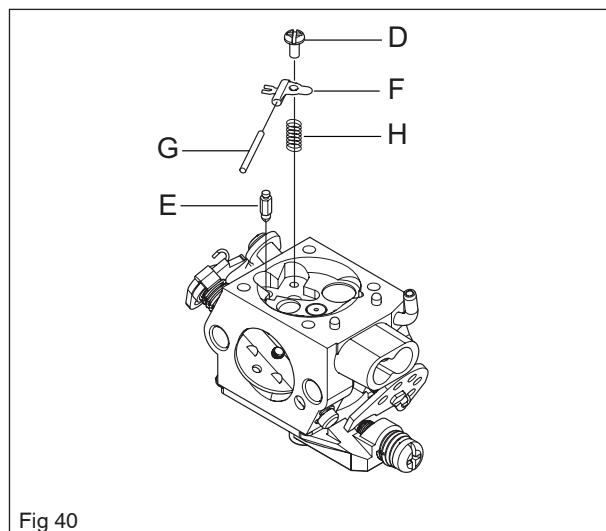

Fig 40
Assemble needle valve (E) with lever arm (F), shaft (G) and spring (H), and tighten screw (D). See figure 40.